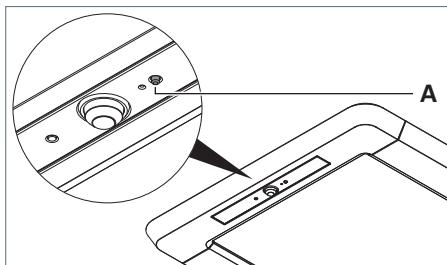
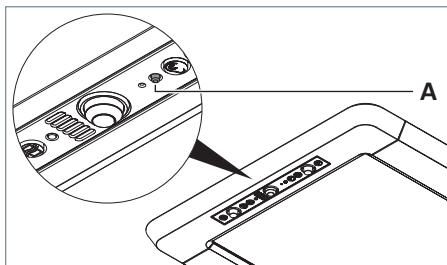

Fig. 24: Carrying out reset, version R.
Fig. 25: Carrying out reset, version RX.
- ▶ Press the key **A**, keep the key pressed and connect the luminaire to the power supply again, see Fig. 24 and see Fig. 25.